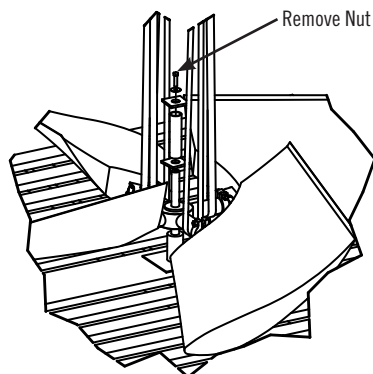

Figure 25. Remove Shipping Restraint Hardware
3. Remove bolt, PVC spacer, and plywood spacers from the shipping mount (**Figure 25**).